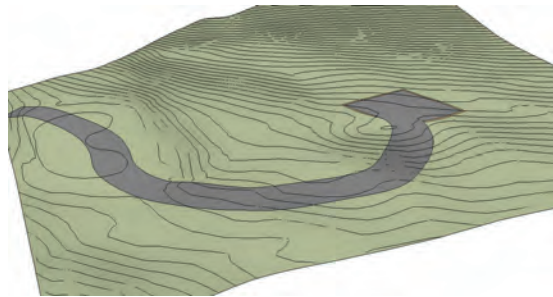

Fig. 15-12: Add color to the road surface.
3. Add color to the road surface (Fig. 15-12).